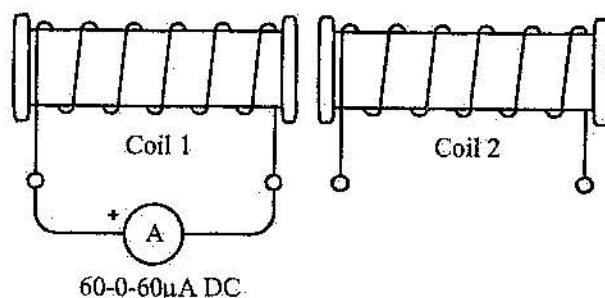

Figure 1
2. Connect the circuit as shown in figure 1. **Do not** insert the iron core.